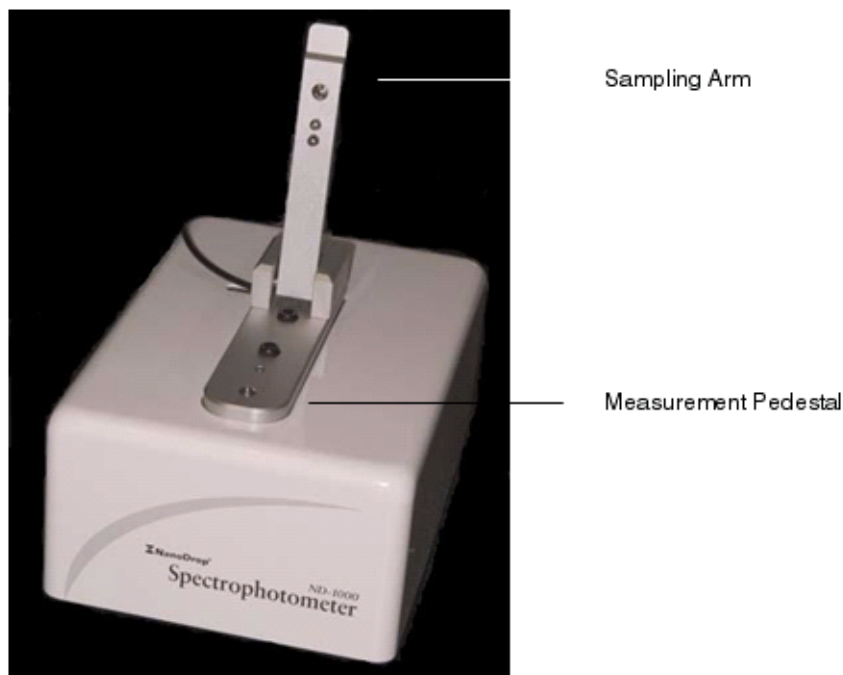

Figure 42 Components of the NanoDrop® ND-1000 Spectrophotometer.
4. Lift the sampling arm and load 2 µL of Nuclease-free Water onto the lower measurement pedestal and lower the sampling arm (see Figure 42 on page 109).